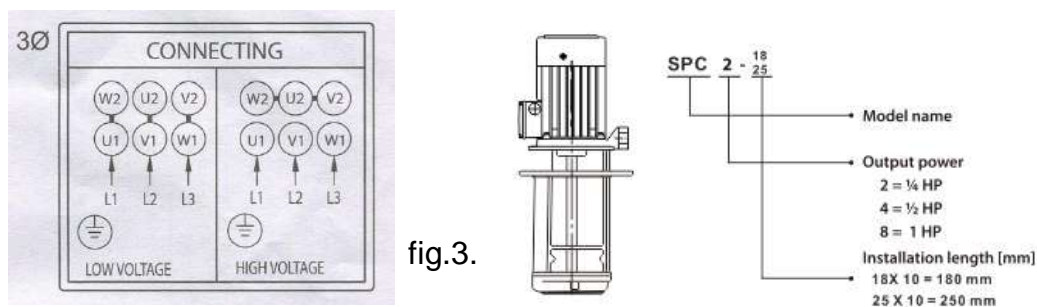

fig.3.
- 4.5. For three phase motors, look down from the fan cover the correct direction of rotation is rotate clockwise. If wrong rotation, you can reverse the direction of rotation by interchanging any two of the incoming supply wires. fig.3.